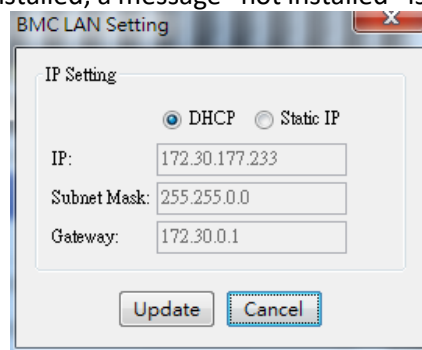

Figure 2-6 Update BMC IP
- **BMC:** This shows the BMC status. If BMC is installed, it will show the BMC IP address. Click the **Settings** button to update the BMC configuration including DHCP, IP, sub net Mask and Gateway. See Figure 2-6. If BMC is not installed, a message “not installed” is shown next to the BMC field.